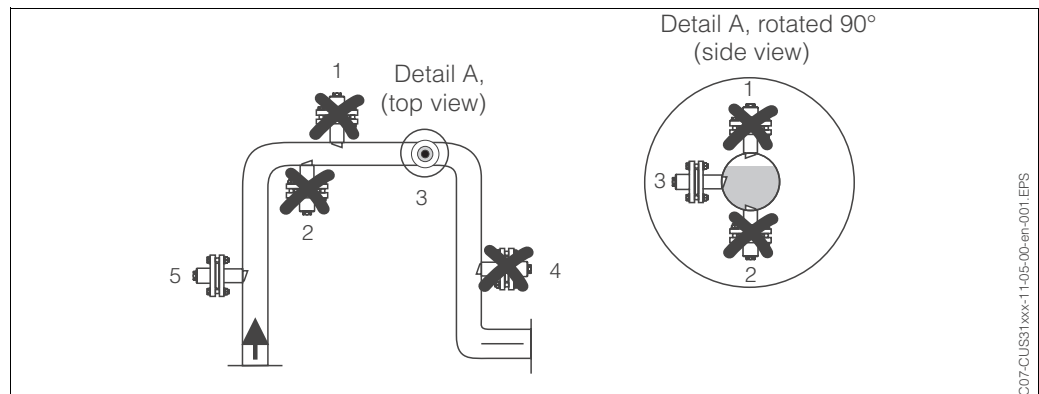

Fig. 6: Orientation and installation positions of OUS31 with OUA120-A/B adapter or with OUA461 retractable assembly
- Install the sensor in places with uniform flow conditions and not in places where air may collect or foam bubbles form (→ Fig. 6, it. 1) or where suspended particles may settle (it. 2).